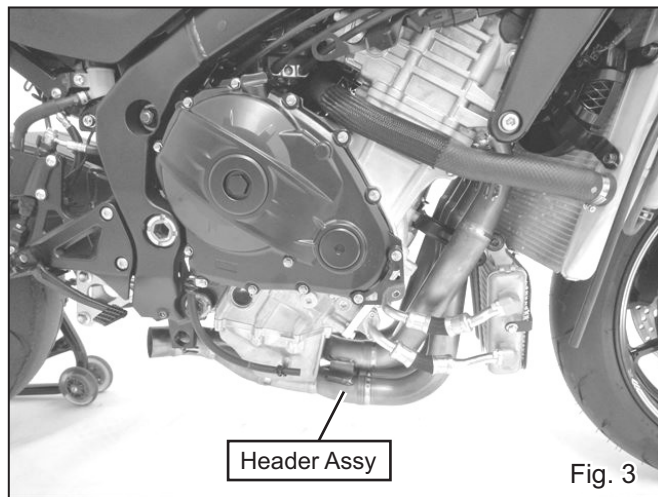

Fig. 3
- 6) Insert Header Assy deep into Connector Pipes installed at Step 12). Tighten all 8 of Drilled Cap Bolt M8x25 on exhaust ports little by little to equalize pressure. Then, install 8 of Exhaust Spring (Floating) on each bolts and spring hooks (See Fig. 3 & 4).